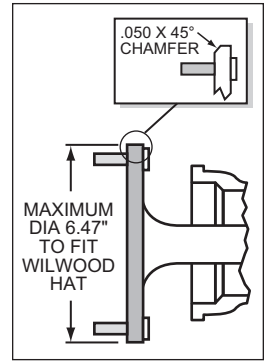

Figure 2. Axle Flange Maximum Dimension
- Maximum axle flange diameter must be no larger than 6.47" w/.050" x 45° chamfer (see Figure 2, right).